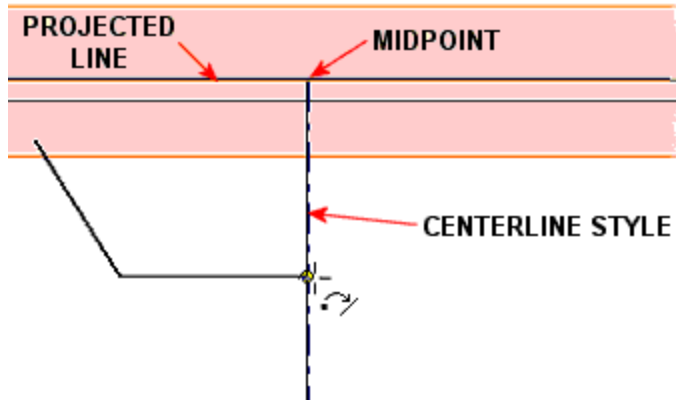

Figure 8: Dimple sketch entities.
6. Draw two connected lines as shown in Figure 8. The endpoint of the horizontal line is coincident to the centerline.